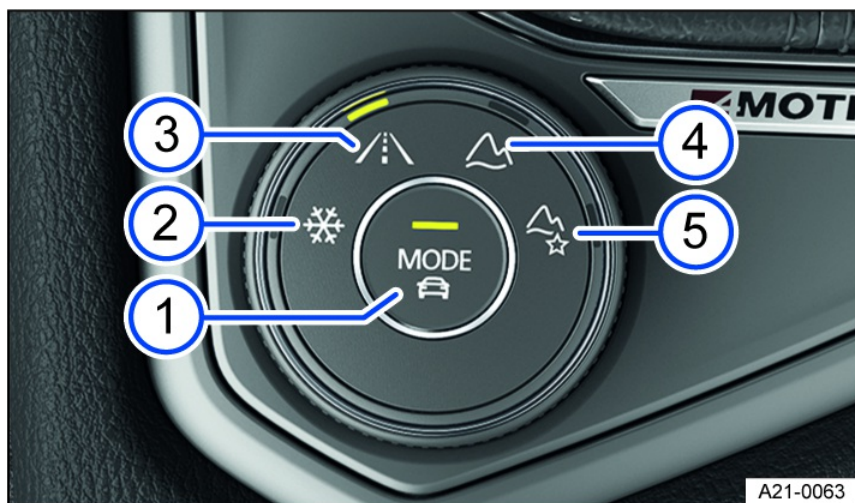

Fig. 96 In the center armrest: 4MOTION Active Control rotary switch.
1. Turn the dial until the LEDs next to the preferred driving mode comes on fig. 96.
2. To switch to the onroad driving modes, press the  button on the dial fig. 96 ① or tap **Onroad driving mode** in the Infotainment system.
Or: if the Offroad Custom driving mode is already selected, press  on the dial fig. 96 ①.